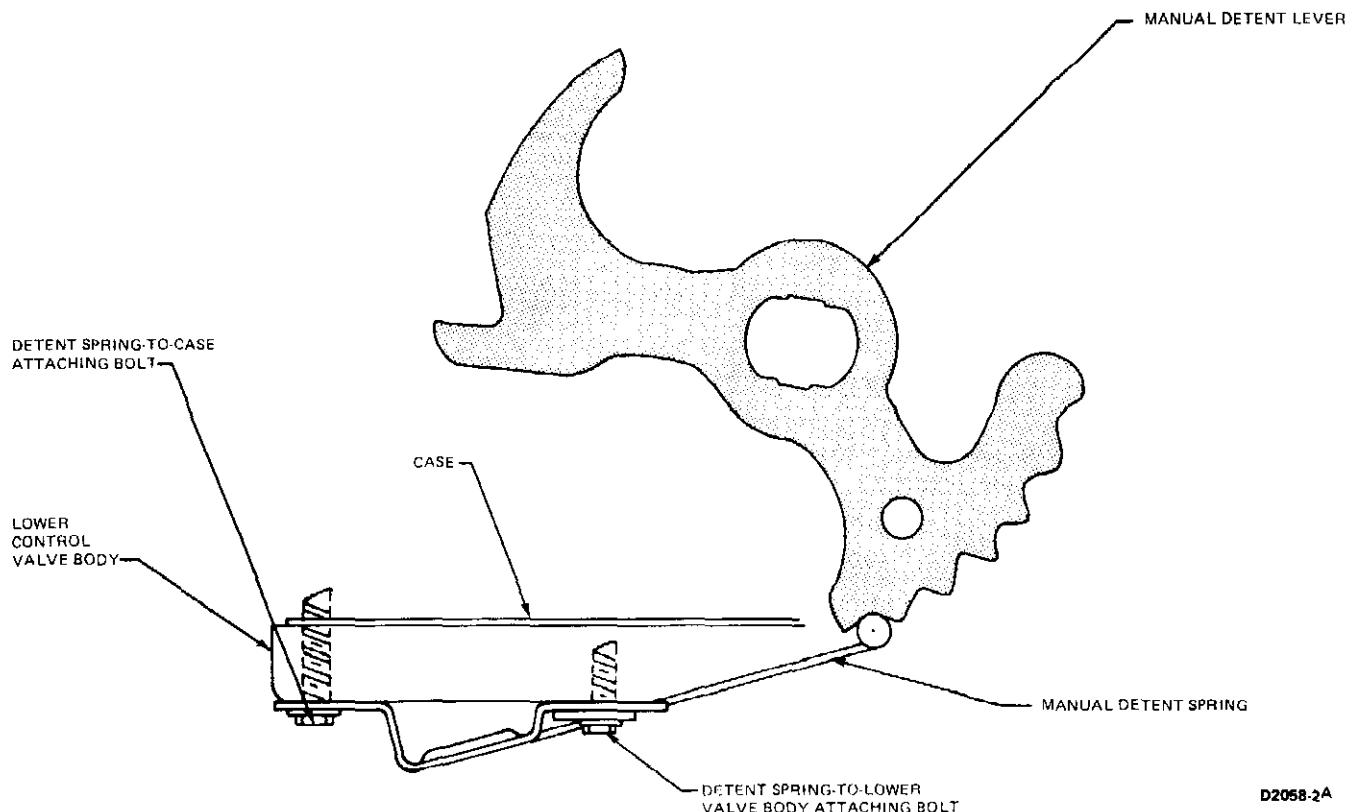

FIG. 8 Control Valve Body Detent Spring Installed
4. Shift the transmission manual lever to the P position and remove the two bolts that attach the detent spring to the valve body and case (Fig. 8).
9. Position the detent spring to the lower valve body and install the spring-to-case bolt finger tight (Fig. 8).
10. Hold the detent spring roller in the center of the manual detent lever and install the detent spring-to-lower valve body bolt (Fig. 8). Tighten the bolt, 80 to 120 in-lb. torque.